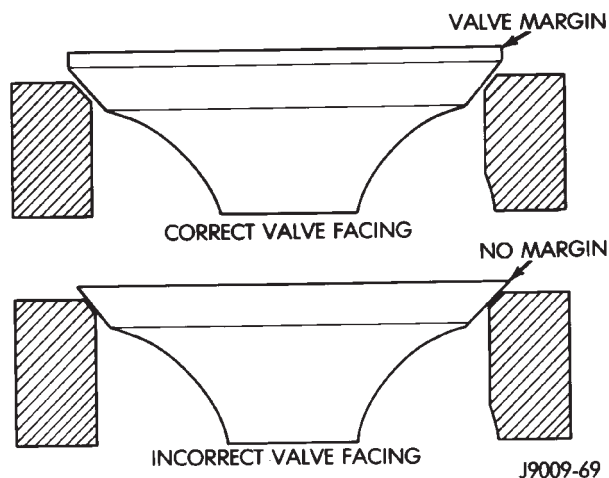

Fig. 19 Valve Facing Margin
(1) Use a valve refacing machine to reface the intake and exhaust valves to the specified angle.
(2) After refacing, a margin of at least 0.787 mm (0.031 inch) must remain (Fig. 19). If the margin is less than 0.787 mm (0.031 inch), the valve must be replaced.